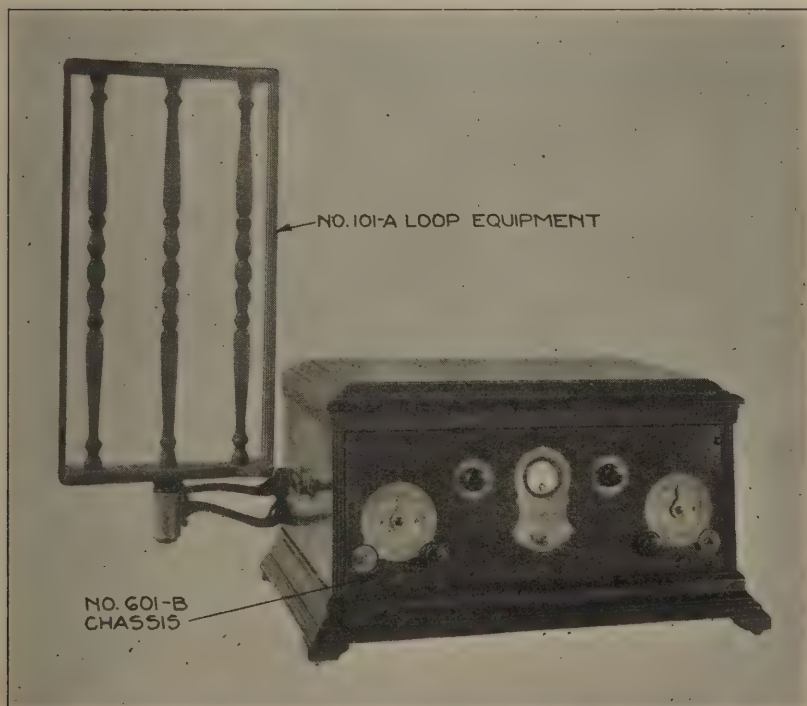
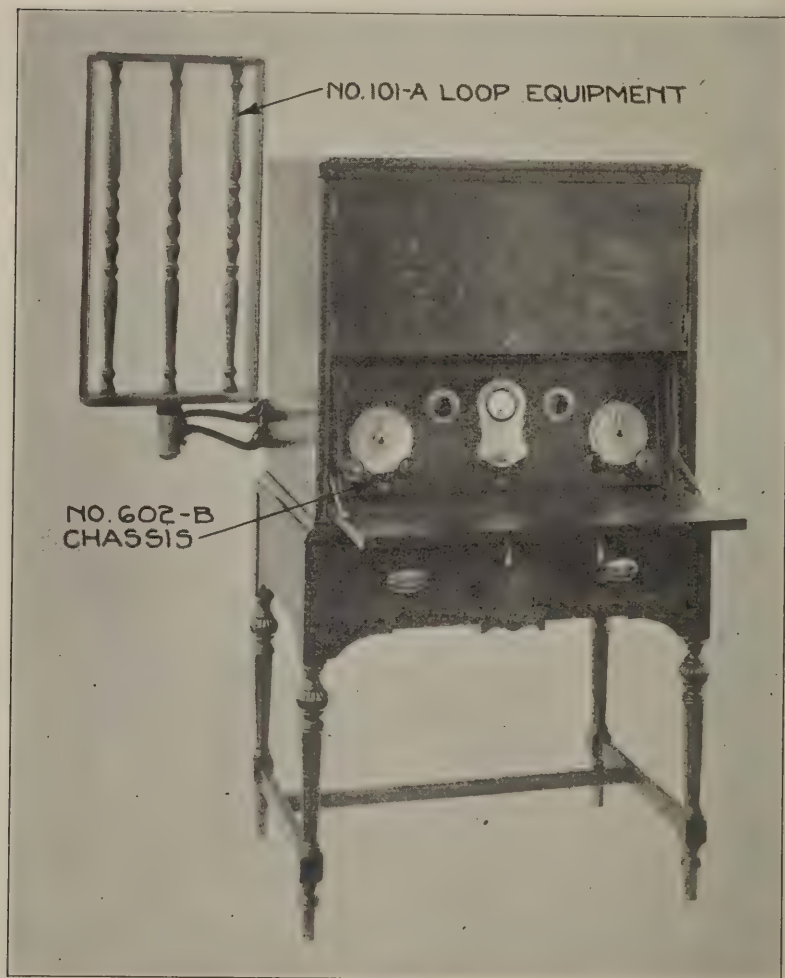

Fig. 46—Loop Type of Signal Collector applied to No. 601-B Receiver
Fig. 47—Loop Type of Signal Collector applied to No. 602-B Receiver
- Second**—After mounting the loop supporting bracket, the loop can be set in place in the socket, provided in the end of this bracket, by first threading the loop connecting cable down through the socket opening. Fig. 46 shows the loop mounted on the No. 601-B receiver while Fig. 47 shows the mounting on No. 602-B receiver.
- (b) By rotating the loop Figs. 46 or 47 to the best position for the desired volume of signal.